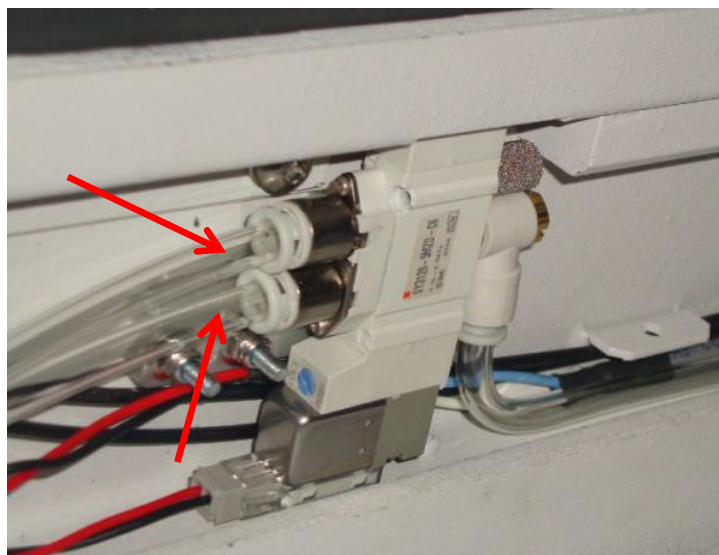

Figure 4
6. Remove 2 x Tubing from XXL Outer Barrier Solenoid Valve (Outlet Port) as below Figure 4.